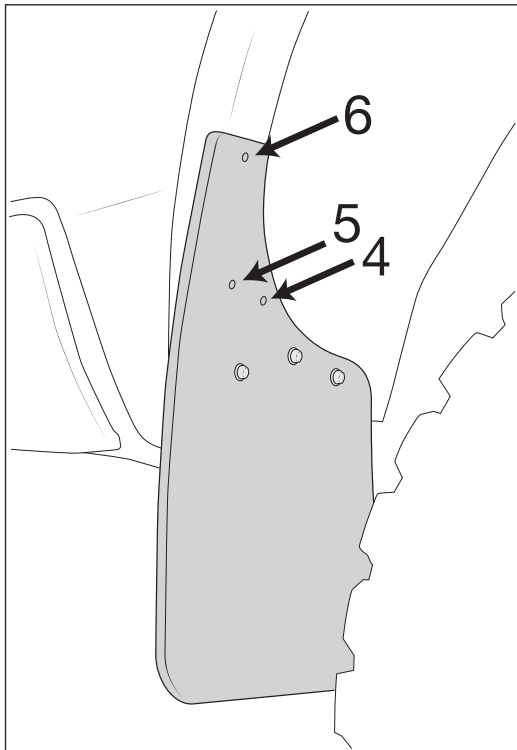

Figure 3
13. Hold the Splash Guard to the fender flare to obtain the best fit. Using the Guard as a template drill 5 mm holes at locations 4, 5, and 6 (Fig. 3).